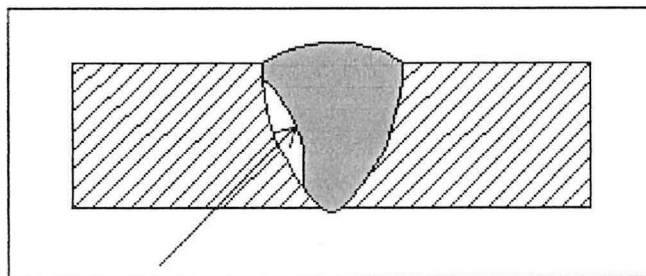
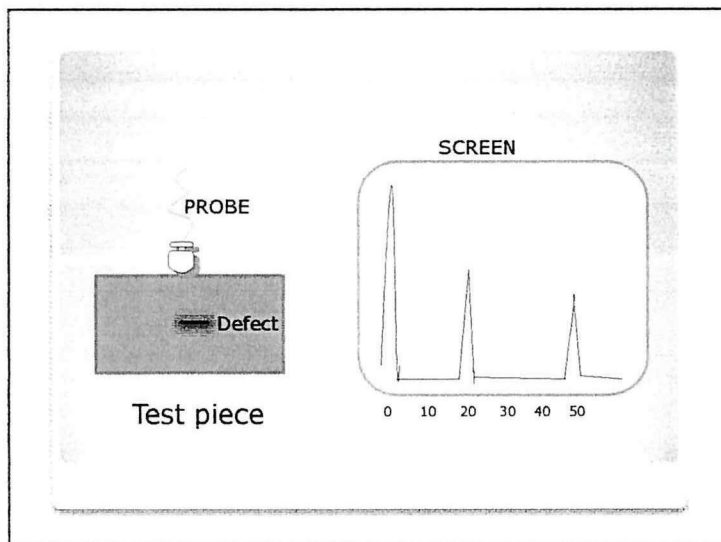

Figure Q2(d): Front view of cross-section
Figure Q3(c)
- (c) State three (3) benefits and three (3) limitations of destruction test. (6 marks)
- (ii) State two (2) types of defect can be detected by Mr Brown using Nick-Break Test. (2 marks)
- Q2** (a) State three (3) uses of Non-Destructive Test (NDT), and when list three (3) types of defect that can be detected by NDT. (3 marks)
- (b) NDT can be applied at almost any stage in the production. State when NDT is used (three (3) answers are expected). (3 marks)
- (c) List down three (3) benefits and three (3) limitations of NDT. (6 marks)
- (d) Figure Q2(d) illustrates a type of defect in a welding product.
- (i) What type of defect is shown in Figure Q2(d)? (2 marks)
- (iii) State three (3) advantages of the suggested test. (3 marks)
- (b) In penetrant testing (PT), penetrant should be applied on the surface of the test piece in order to make the defect visible.
- (i) State two (2) methods of applying penetrant on the surface. (2 marks)
- (ii) List down two (2) factors that affect the penetration process on the surface. (2 marks)
- (c) An internal defect of a product is inspected using ultrasonic testing method. Figure Q3(c) shows the output on the screen of the test equipment.